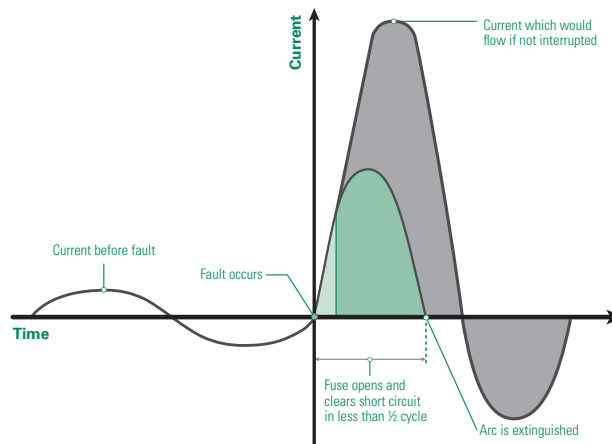

Figure 13 – Current-limiting Fuse
**Current-limiting Fuse** (See Figure 13) – A fuse which, when interrupting currents within its current-limiting range, reduces the current in the faulted circuit to a magnitude substantially less than that obtainable in the same circuit if the device was replaced with a solid conductor having comparable impedance. To be labeled “current limiting,” a fuse must mate with a fuse block or fuse holder that has either a rejection feature or dimensions that will reject non-current-limiting fuses.